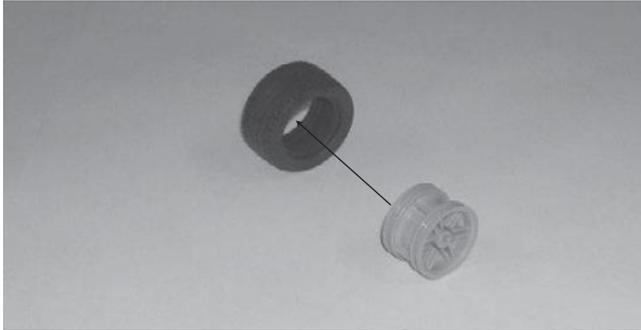

Figure 9.5
Step 1—Create the robot’s left wheel by connecting a rim to a tire as shown in Figure 9.5.